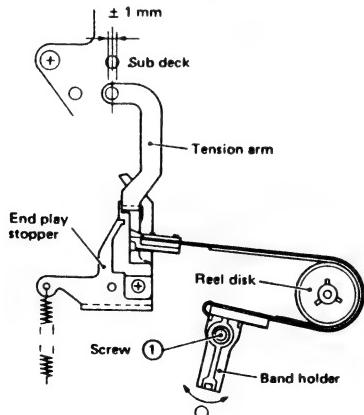

Fig. 2-27 Tension pole position
- Confirm that the center of the tension pole lies upon the center line of the sub-deck hole as shown in Fig. 2-27.
- If necessary, loosen screw ① and adjust the tension band holder to obtain the correct tension pole position.